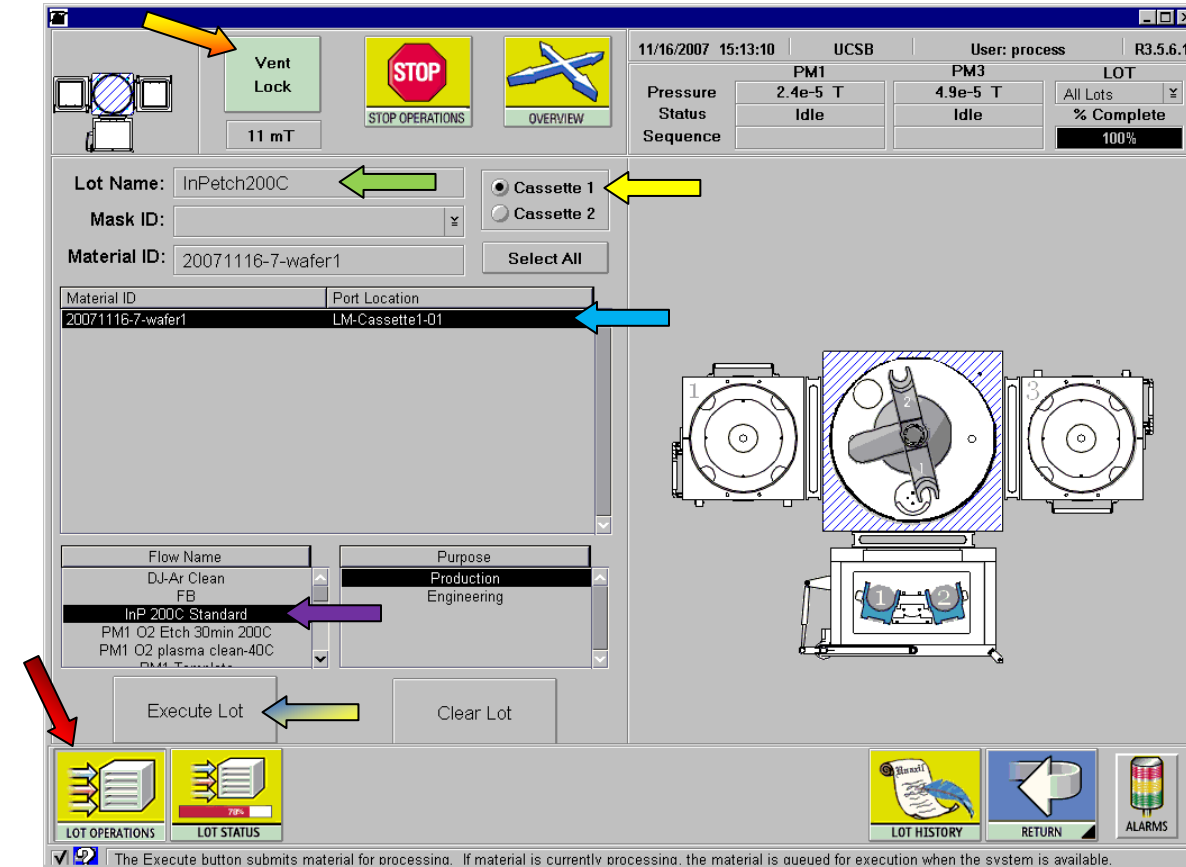

Figure 1
1. Reference **Figure 1** on **page 2** for arrows within this procedure.